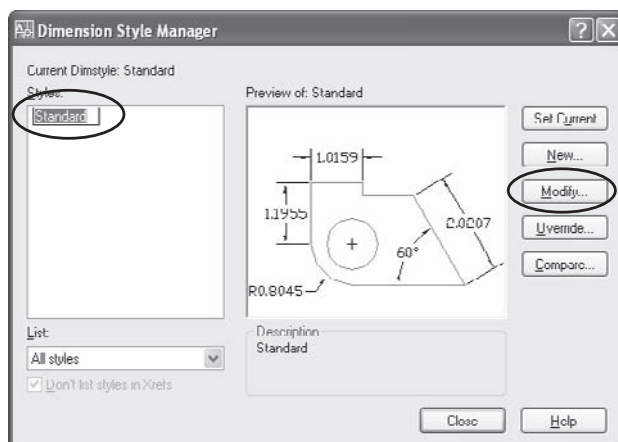

Figure 4.2
3. Rename the Standard style using a name that makes sense to you. (See Figure 4.2.)